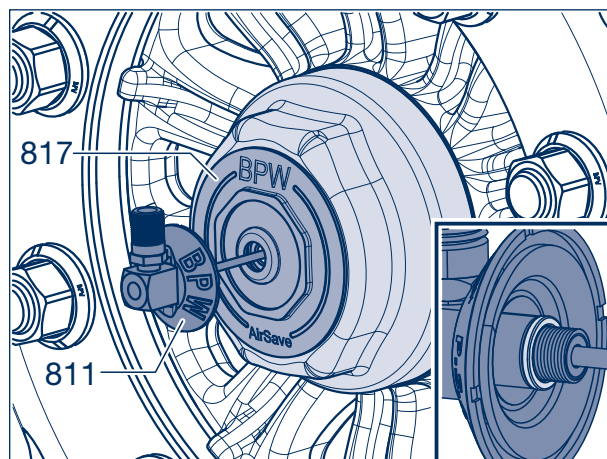

Figure 3
- [7] Check soft sealing ring of the rotor (811 or 811a, depending on tyre) for correct seat at the end of the thread, push up to the bumper if necessary (Fig. 3, Section).
- [8] Guide the rotor into the adapter (817) of the hub cap and the stator (821) in the axle stub and push until contact is made. There will be a slight resistance.